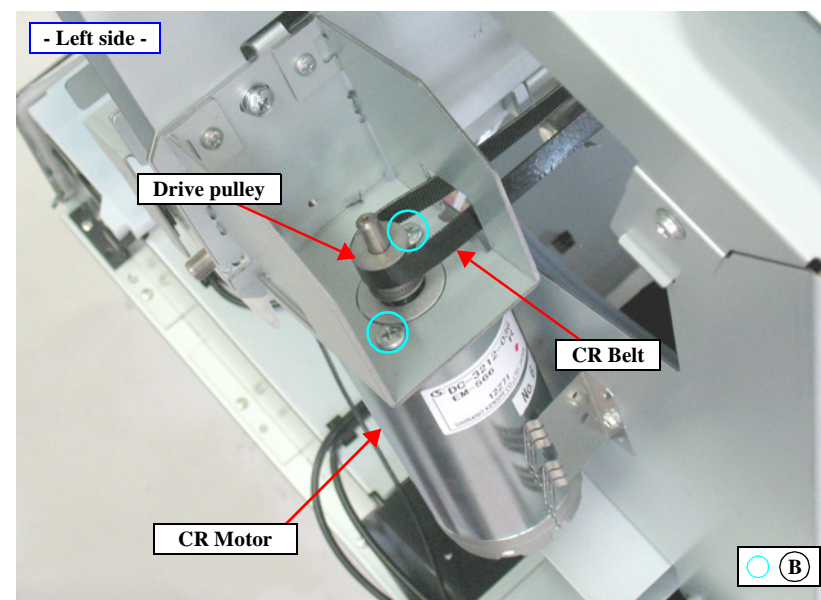

Figure 4-68. Removing the CR Motor
11. Remove the two screws that secure the CR Motor, and remove the CR Motor. *See Figure 4-68.*